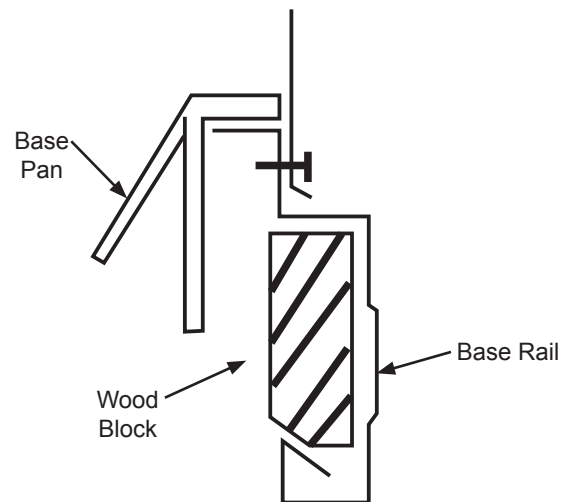

FIG. 14 - Wood Block Installed
3. Cut (5) wood spacers per Fig. 14. (included with CPGSKTKIT001A00.)